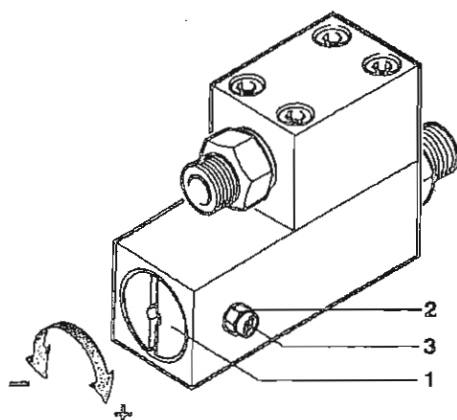

Fig. 10 Pressure maintaining/non-return valve
The pressure maintaining valve is adjusted at the factory to the required pressure and normally does not require regular maintenance or readjustment. In case of readjustment becoming necessary, loosen jam nut (2, Fig. 10) and set screw (3). Adjust screw (1) to the required pressure using a suitable screwdriver.